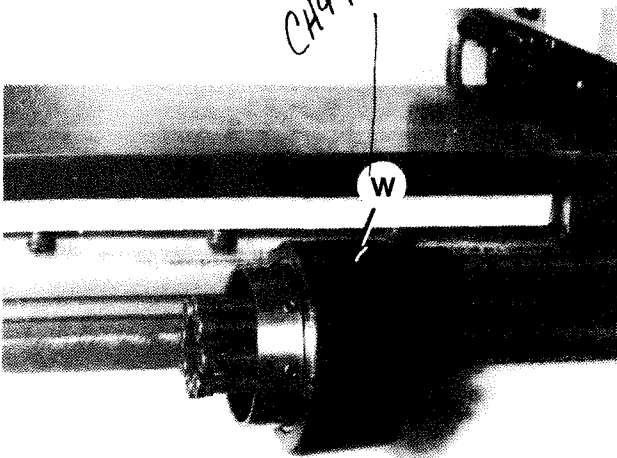

Figure 1.39 - Carriage Drum Stop
1. Remove carriage drum stop "W", Figure 1.39 .
4. Remount carriage drum stop "W", Figure 1.39 .